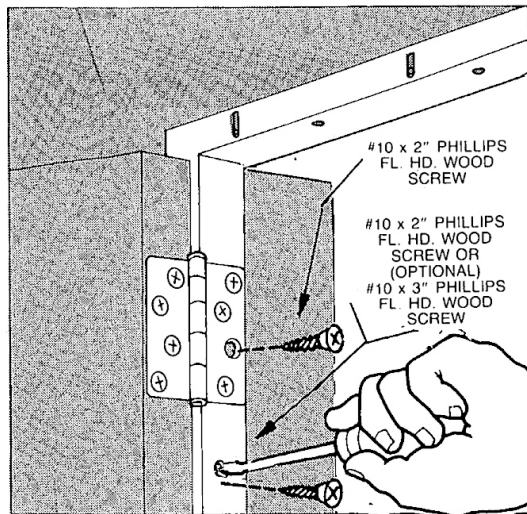

Figure 11E-1
11. Use the 2"- # 10 flathead screws (included) or the # 10-3" flathead screws (optional) to attach the jamb to the framing of the door opening (Figure 11E-1).